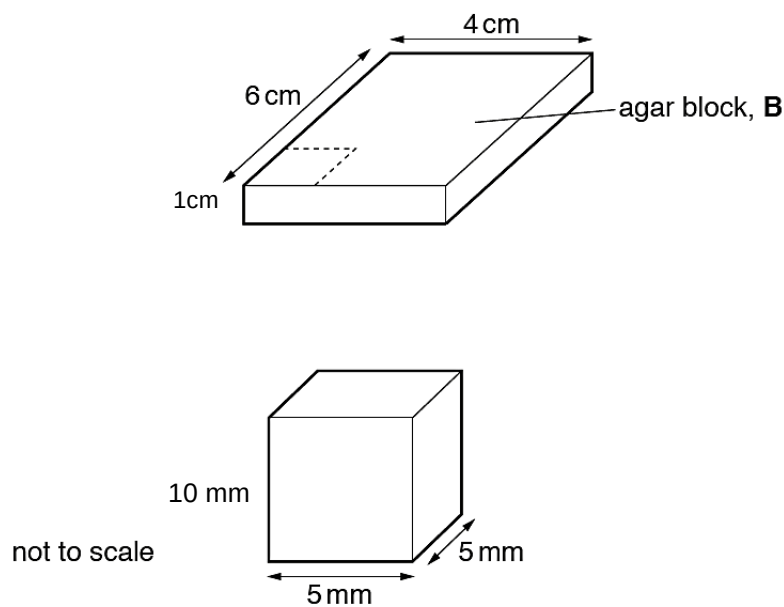

Fig. 1.2
You will need to cut the agar block, **B**, into smaller pieces as shown in Fig. 1.2.
3. Place the agar block, **B**, onto a white tile and cut into identical pieces, each $5 \text{ mm} \times 5 \text{ mm}$ as shown in Fig. 1.2. You do not need to adjust the height.